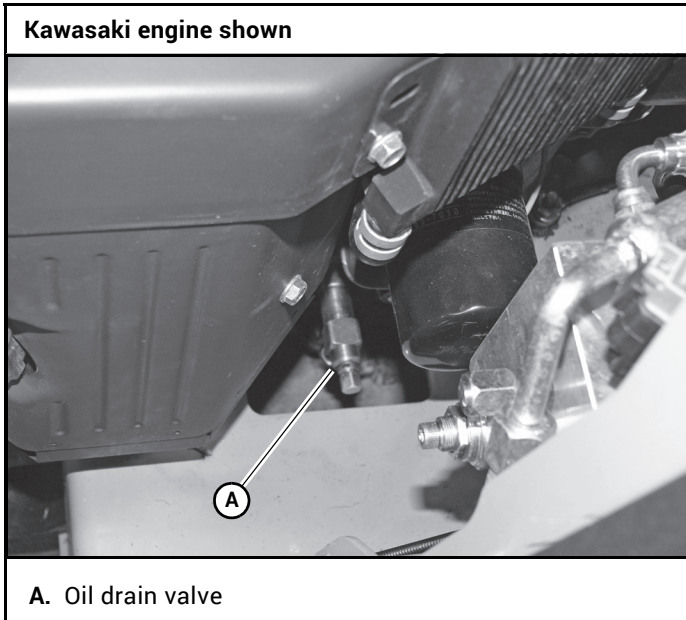
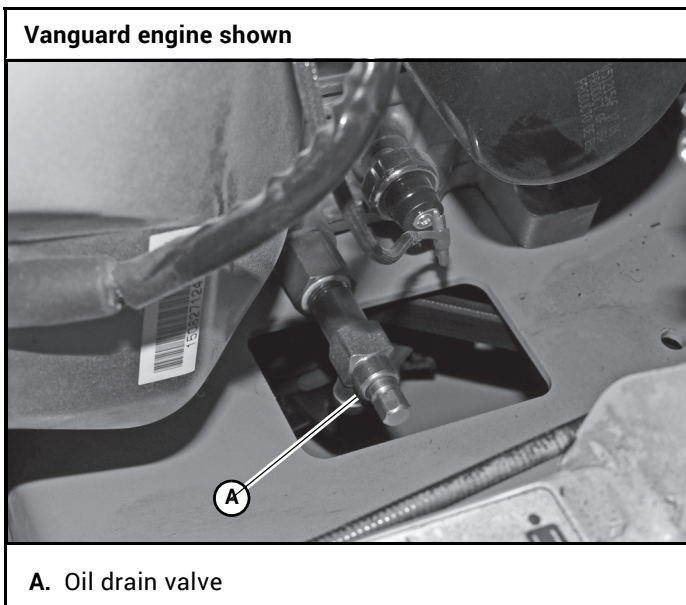

Figure 4-8
Figure 4-9
1. Locate the oil drain valve on the engine. Figure 4-8 & Figure 4-9